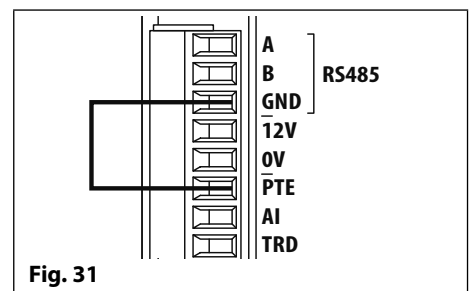

Fig. 31
2. On the rear of the GSM panel link out the GND and PTE terminals, as shown in **Fig.31**.